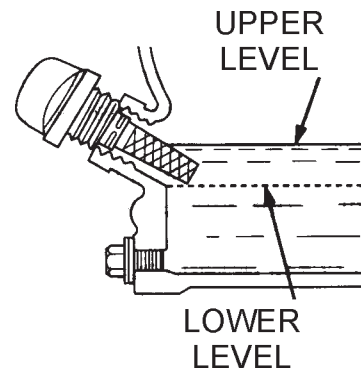

Figure 5. Engine Oil Level
4. If the oil level is low (Figure 5), fill to the edge of the oil filler hole with the recommended oil type (Table 4).